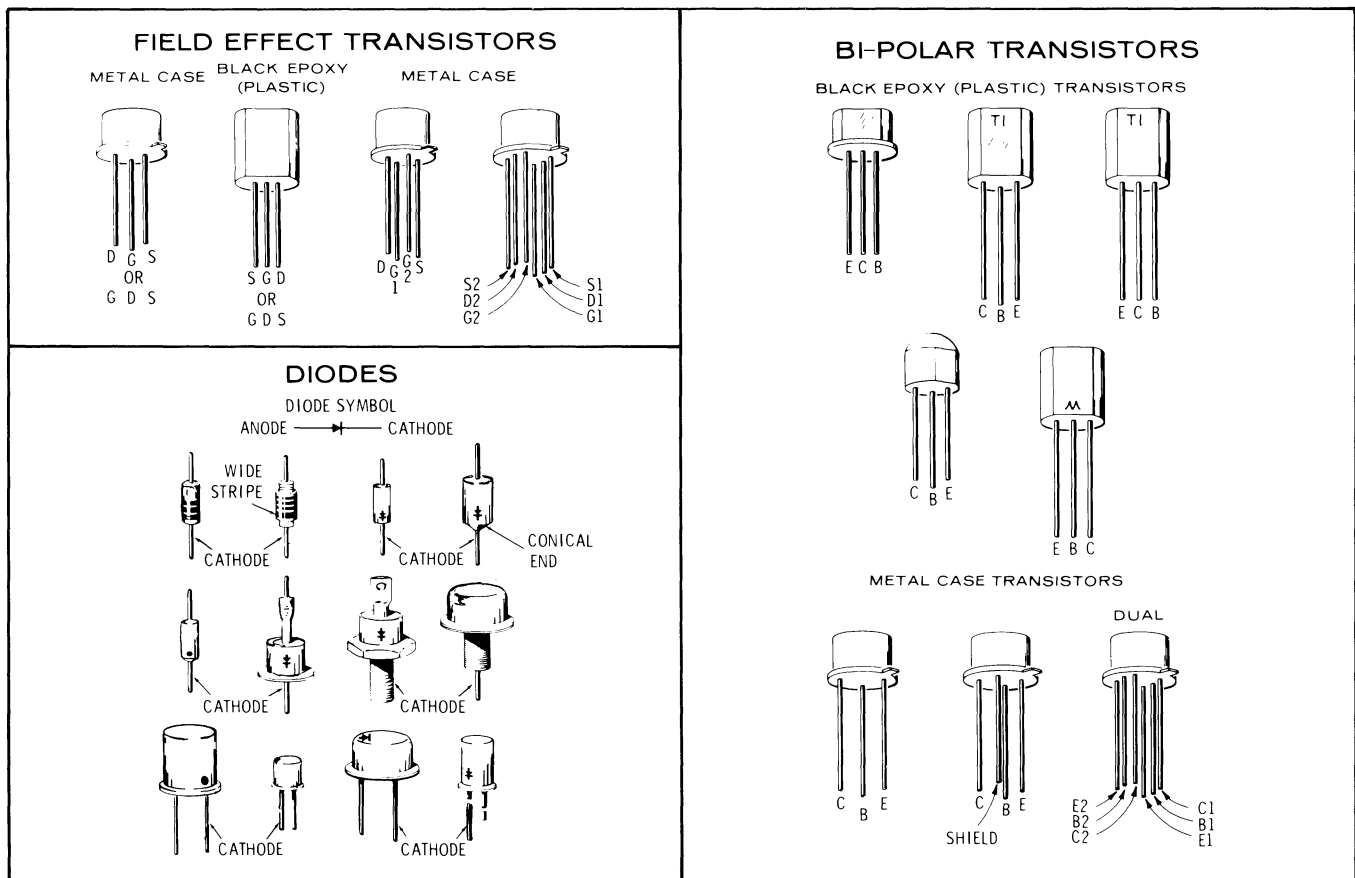

Figure 8-1. Examples of Diode and Transistor Marking Methods
**8-14. Transistor and Diode Markings.** Figure 8-1 shows diode and transistor marking methods. In addition, the emitter lead for a bipolar transistor is